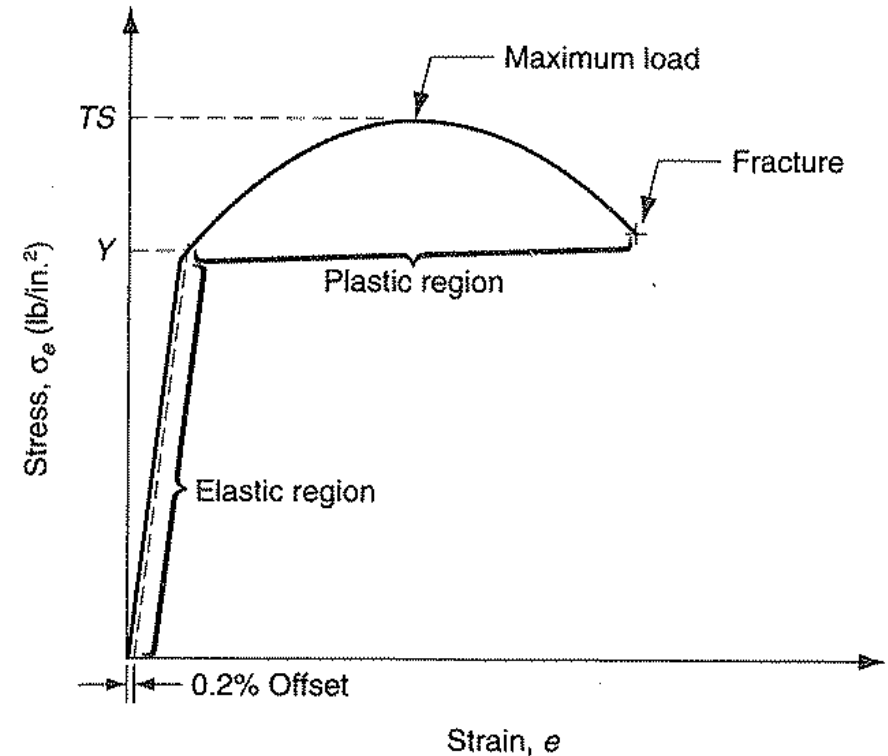

Fig. 3-4: a typical engineering stress-strain curve for a metallic specimen.
- Fig. 3-4 shows an engineering stress-strain curve for a metallic specimen.